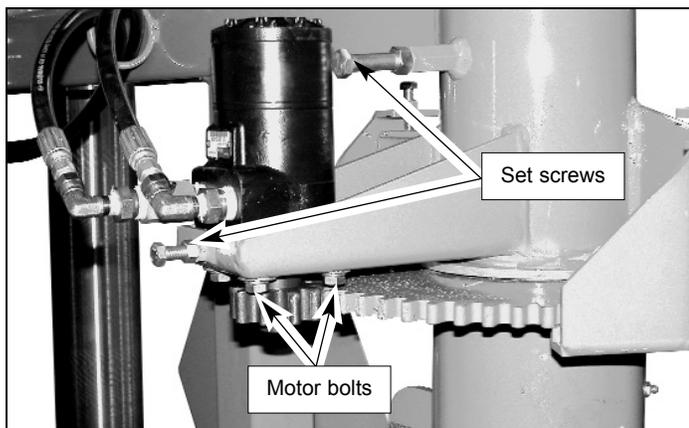

Fig. 13
2.9 Align the motor gear with the side arm gear. Make sure that gears rotate without pressure, then tighten the motor bolts -*fig. 13*.